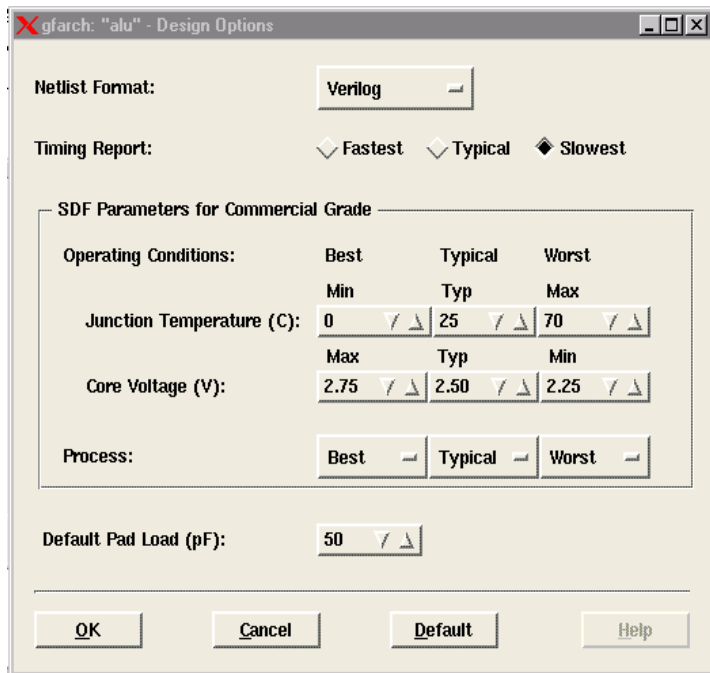

Figure 2-13. Operating Conditions
1. **Select the Design from the Options menu in the Design Executive Window.** The Design Options Window is displayed, as shown in Figure 2-13.